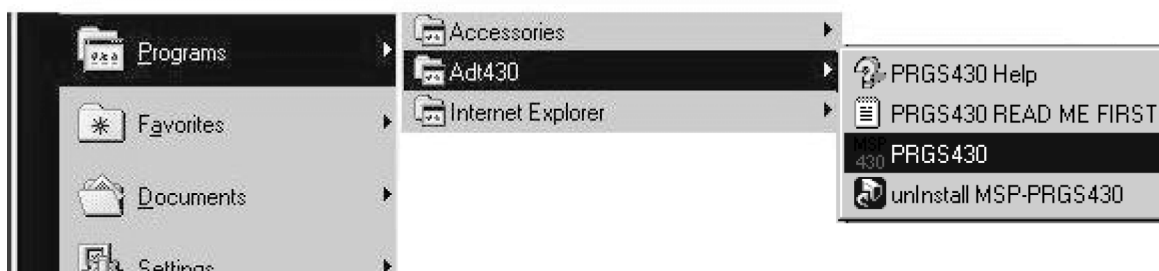

Figure 1. ADT430 Program Icons
4. During setup, the MSP430 program icons are installed in the selected folder. Click on the PRGS430 Read Me First icon (see Figure 1) for important information about the program device hardware and software.